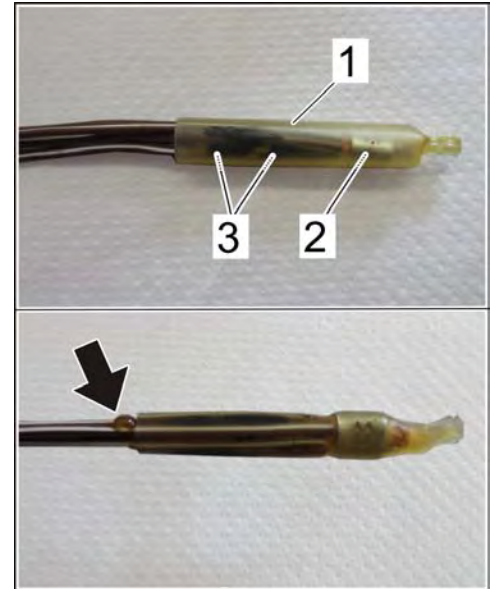

Figure 11
- 10.3 Slide end cap ⇒ *Figure 11 -1-* over the splice connection ⇒ *Figure 11 -2-* and additional adhesive ⇒ *Figure 11 -3-*.
- 10.4 Using the heat gun with spoon strainer attached, carefully fuse the end cap ⇒ *Figure 11 -1-* and additional adhesive ⇒ *Figure 11 -3-* with the splice connection until adhesive emerges all the way around ⇒ *Figure 11 -arrow-*. **Temperature** 266° F. (130° C.) +/- 50° F. (10° C.)